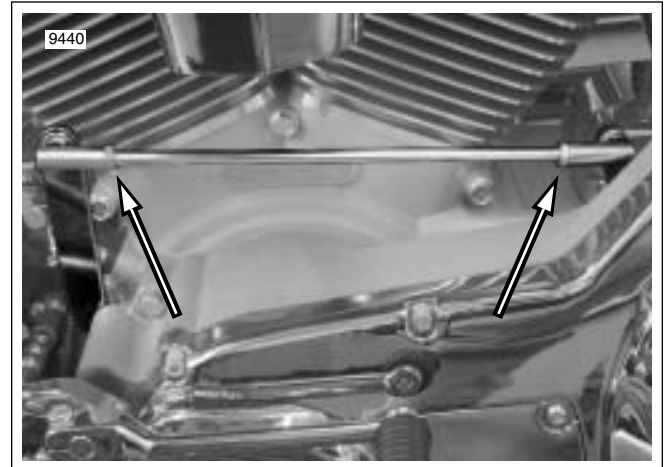

Figure 7-2. Loosen Locknuts and Adjust Rod
1. Remove locknut, lockwasher and flat washer to free front end of shift rod from inner shift arm. See Figure 7-2.